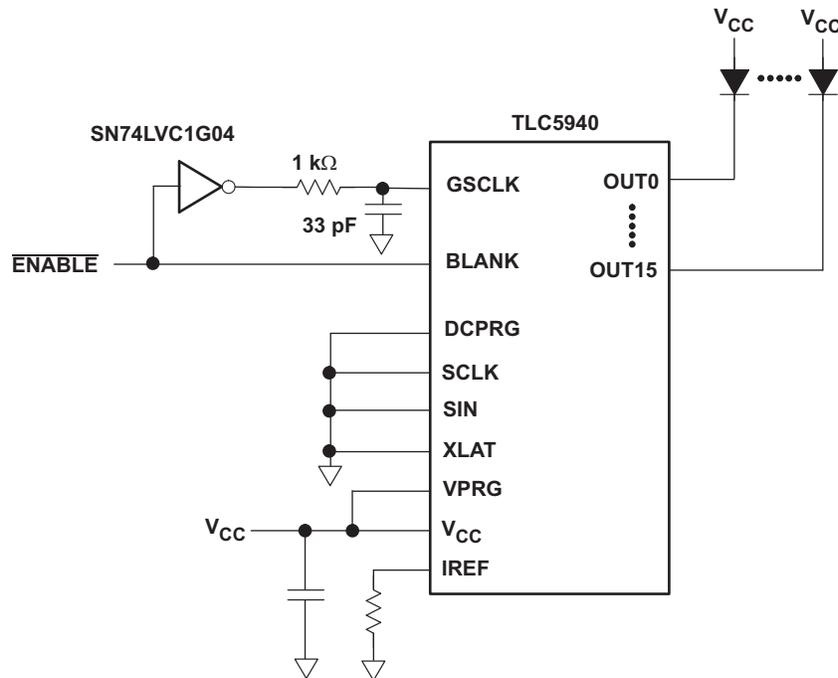

**Figure 1. TLC5940 Controlled by MCU**
**Figure 1** shows the TLC5940 16-channel LED driver in a typical configuration driving 16 individual LEDs. Each LED's cathode is connected to the constant-current sinks OUT0 to OUT15, which provides exceptional LED brightness control. In this configuration, a microprocessor interfaces to the seven control signals to individually control each LED's brightness. The maximum LED current is set at the IC level with the Iset resistor, R1. This current is calculated with